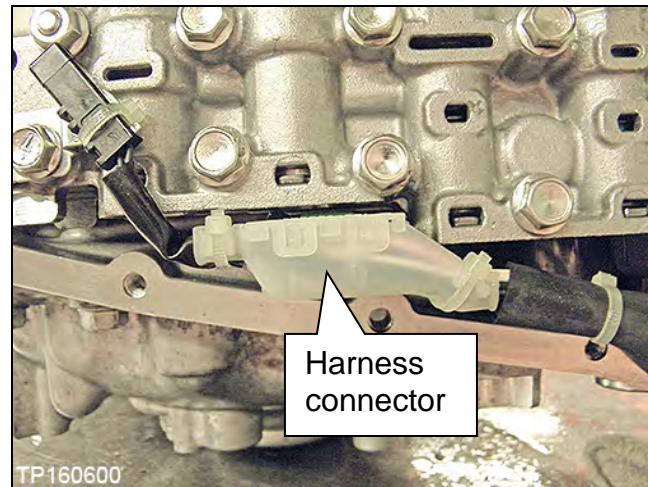

Figure 8J
4. Connect the electrical harness connector (Figure 8J).